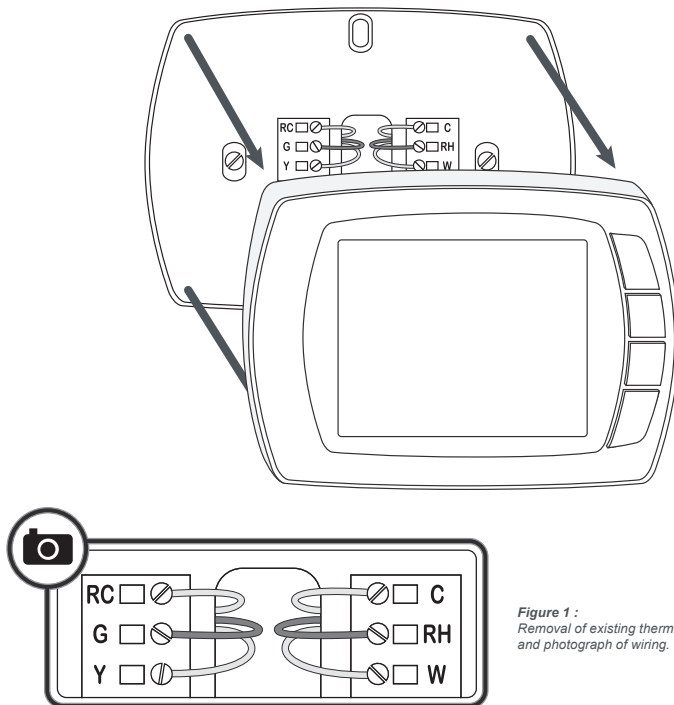

Figure 1 :
3. Take a picture of the wiring of the terminal connections (Fig. 1). To prevent confusion, label the wires.